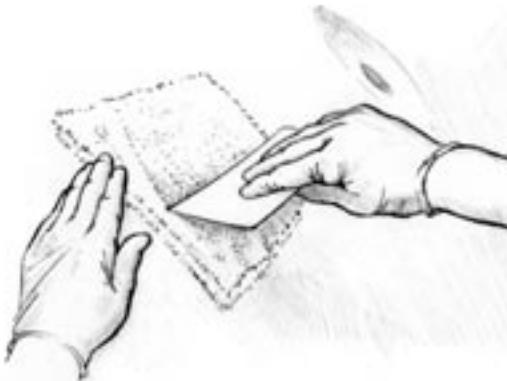

Figure 4-3. Smooth the wet-out fabric against the waxed panel to laminate a backer that matches the panel contour.
4. Place the wet-out fabric against the waxed panel (*Figure 4-3*). Use a squeegee to smooth the cloth against the panel and remove excess epoxy. The paste wax will prevent the cloth from bonding to the panel. If the hole is in a flat or moderately curved area of the panel, the backer can be laminated on the flat table. It should be flexible enough to conform to a moderately curved panel. Allow the backer to cure thoroughly.